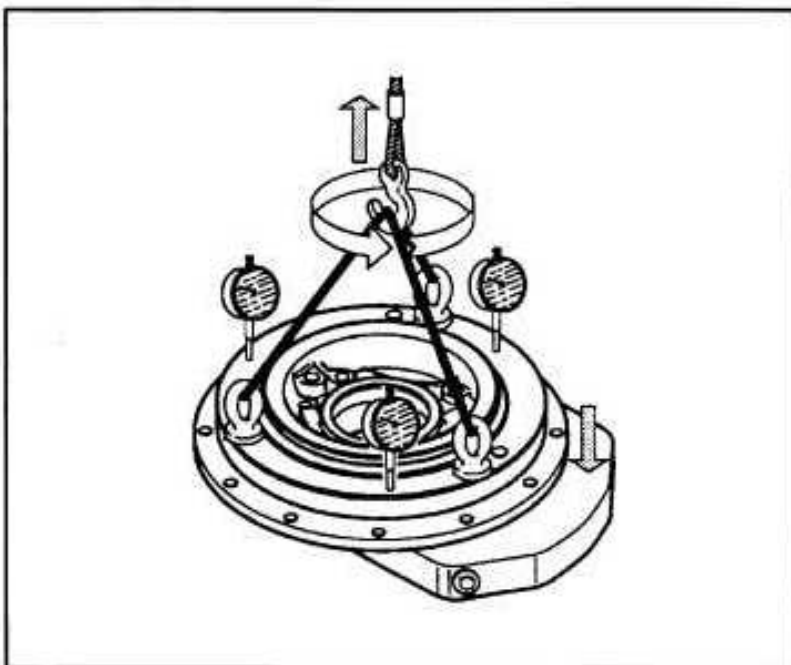

Figure 4-20 – Check Trunnion Bearing
46. Clamp the upper part of the MDU to an assembly table. Install three eyebolts into the outer race of the trunnion bearing and rotate the bearing several times. See Figure 4-20.